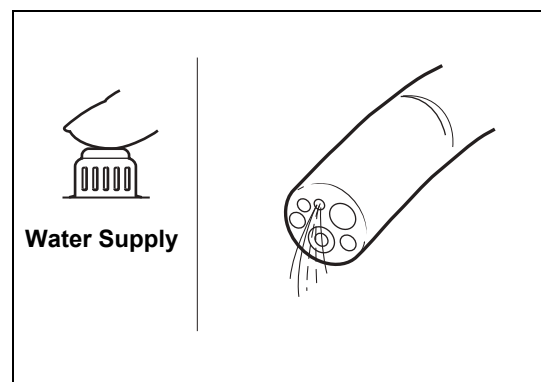

Figure 4.6
- 5 Fully press the air/water feeding valve and check that water comes out of the distal end of the endoscope. (Refer to Figure 4.6.)